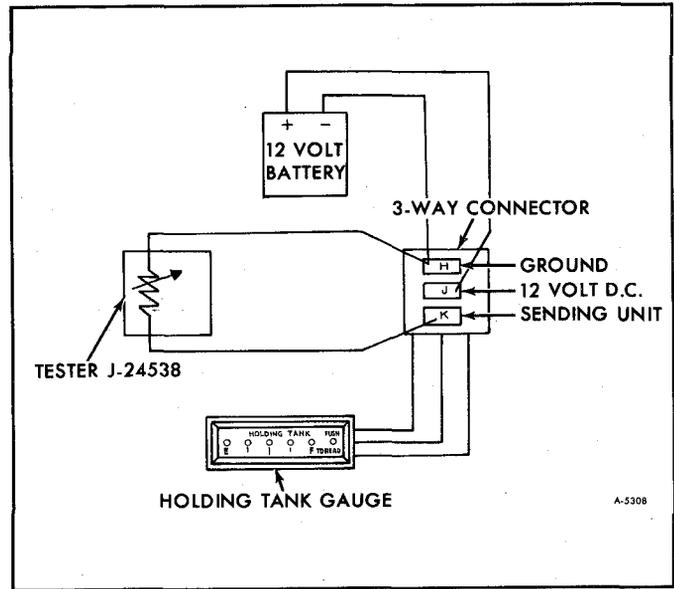

Figure 7—Holding Tank Gauge Test Circuit
1. Connect tester leads and 12-volt battery leads to gauge 3-way connector (as in figure 7). Connector terminals are coded ("H" for ground, "J" for 12-volt DC, and "K" for sending unit) to guide correct connections. Caution should be used when connecting the circuit, as improper power supply polarity or improper connections can permanently damage the unit.